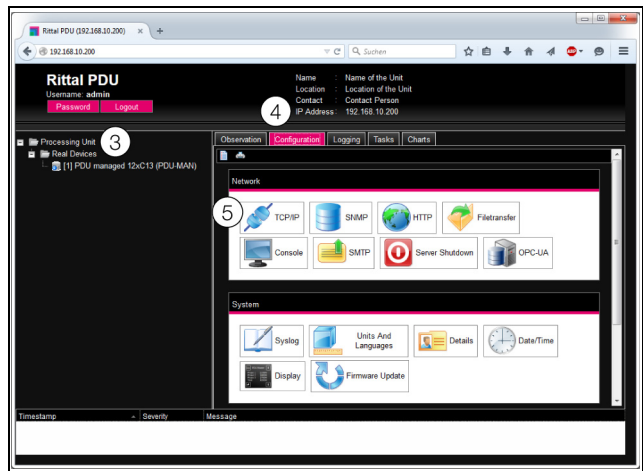

Fig. 21: Customise the TCP/IP settings
The overview window for the device will appear (fig. 21).
- In the left-hand section of the overview window (navigation area), click the **Processing Unit** entry (fig. 21, item 3), and in the right-hand section (configuration area), click the **Configuration** tab (fig. 21, item 4).
- In the **Network** group box, click on the **TCP/IP** button (fig. 21, item 5).